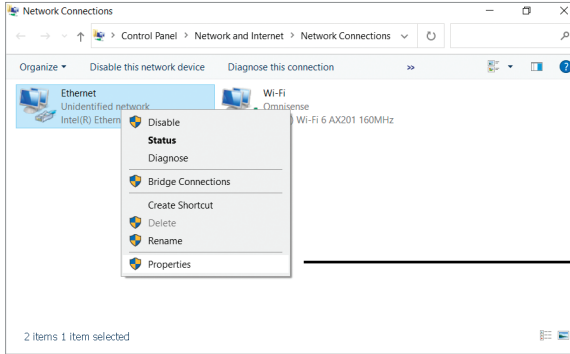

Fig. 9
2. Right-click on your Ethernet Network connected to the Junction Box and click on Properties (Fig. 9).